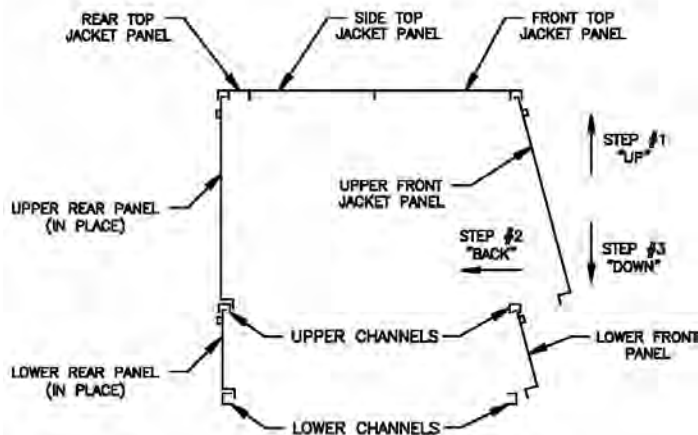

FIG. 59
3. CLEANING OF FLUES AND BURNERS – Flue passageways in the boiler sections should be checked annually for any blockage or accumulation of soot. To obtain access to the flue cleanout panels, which are installed on both the front and rear of the boiler, the upper front and upper rear jacket panels must be removed, see Fig. 59. Also remove front vestibule panel. See Fig. 18.